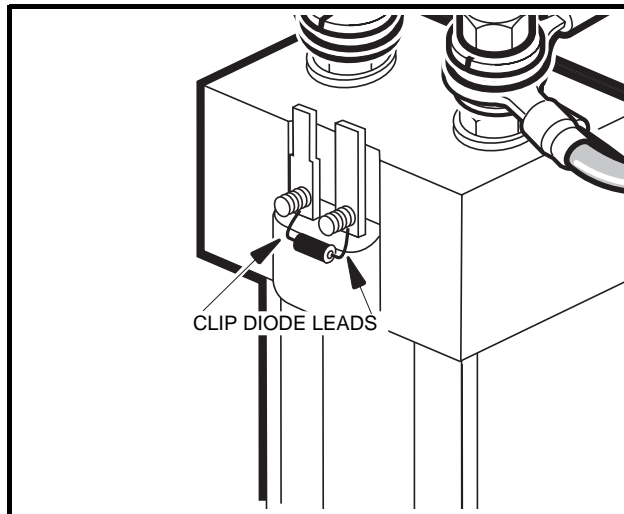
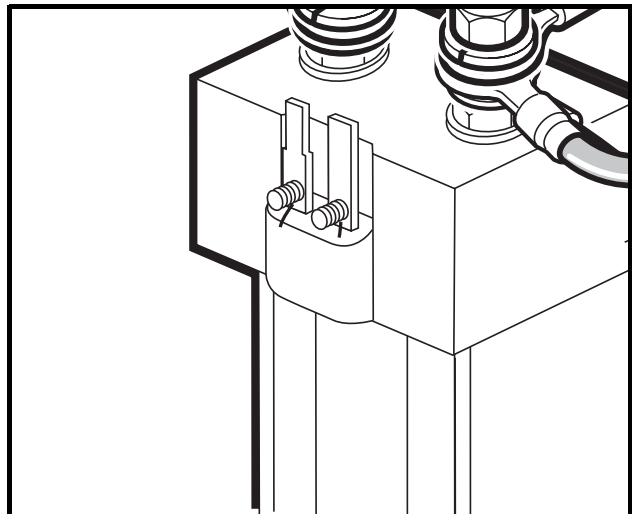

Figure 11-10 Diode Removal
Figure 11-11 Solenoid with Diode Removed
4. To remove the diode, carefully clip the two leads where they attach to the solenoid terminals (**Figure 11-10, Page 11-19** and **Figure 11-11, Page 11-19**). See following **NOTE**.